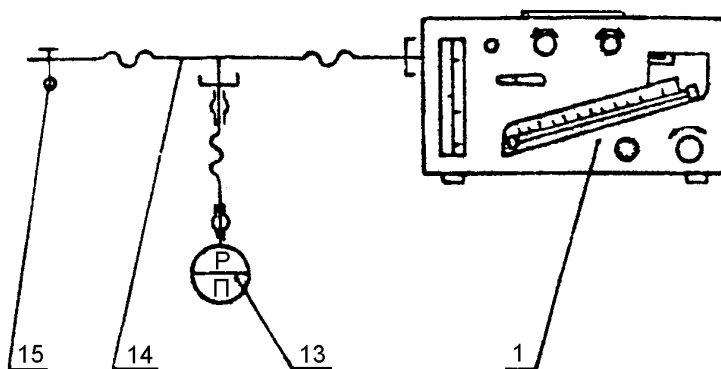

Fig. 14. Test set-up of the ejector outputs
10.4.12 To check the ejector output establish the test set-up shown in Fig. 14. Set the panel controls as described in item 10.4.10 and create a maximum flow. Reduce a cross section of the tube by a screw clamp 15 to establish the pressure of 2000 Pa, in the system being checked and read the flowmeter. The pressure is controlled by a vacuum gauge 13. Then set КЭ handwheel into «НАГНЕТ.» position and repeat the operation.